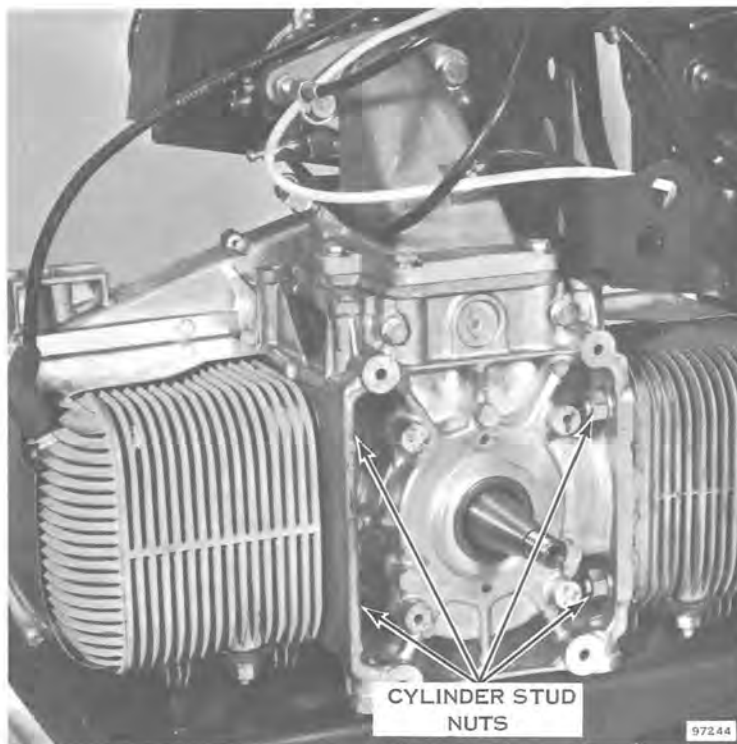

Figure 9-7
The snow machine is driven by a two-cycle, twin-opposed cylinder, air-cooled engine (see Figure 9-7). This section gives instructions for removal and overhaul of the engine. Principles of two-cycle engine operation are discussed in Section 3. Trouble shooting procedures are given in Section 4.
- i. Remove the eight cylinder stud nuts and lockwashers. The cylinder barrels can now be removed from the crankcase. See Figure 9-7.